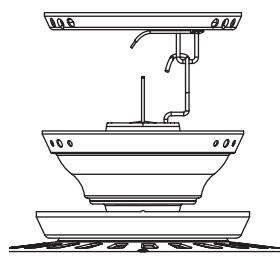

Figure 13 - Rotating the fan
1. Rotate the fan 180° clockwise from the initial position when hanging the fan. The arrows on the hanger ball and on the ceiling plate should be pointing in the same direction and should be pointing towards the tab hole on the canopy. Refer to Figure 13.